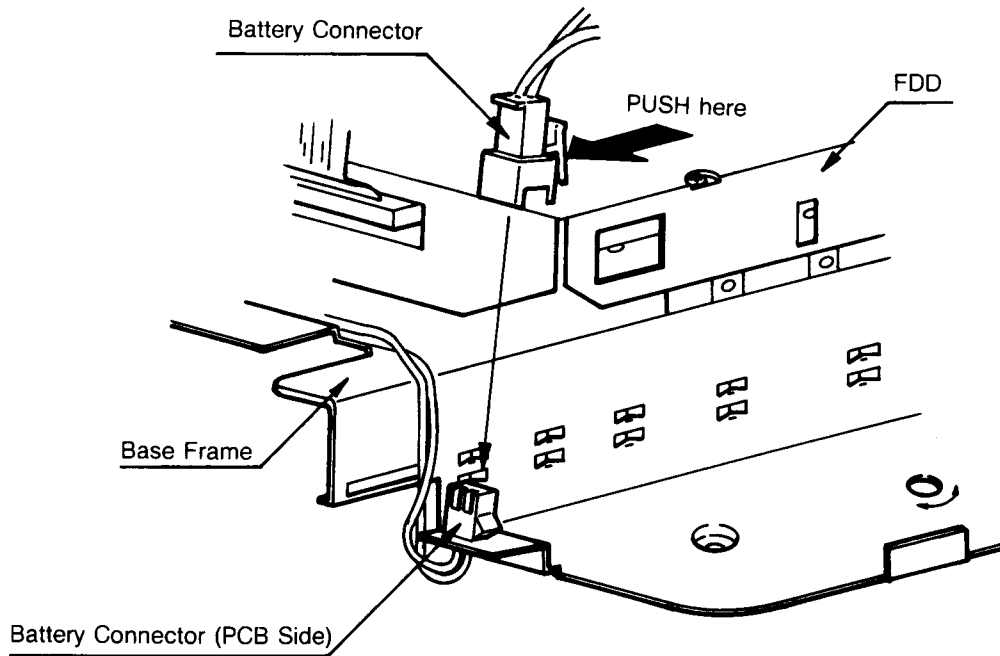

Figure 2-12. Battery connector Removal
- (1) Disconnect the Battery connectors and remove the Battery Pack. (Figure 2-12)